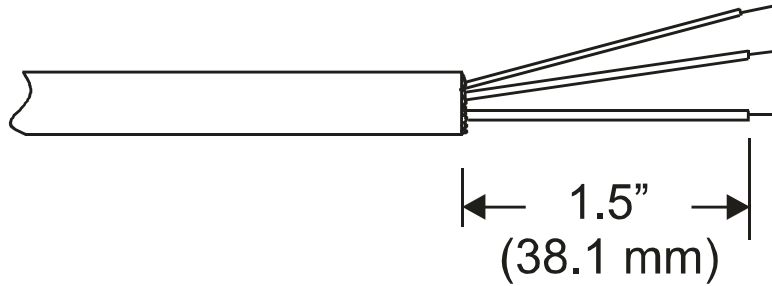

Figure 6 - PREPARING THE POWER CORD
- Strip the free end of the wires evenly as shown in Fig. 6.